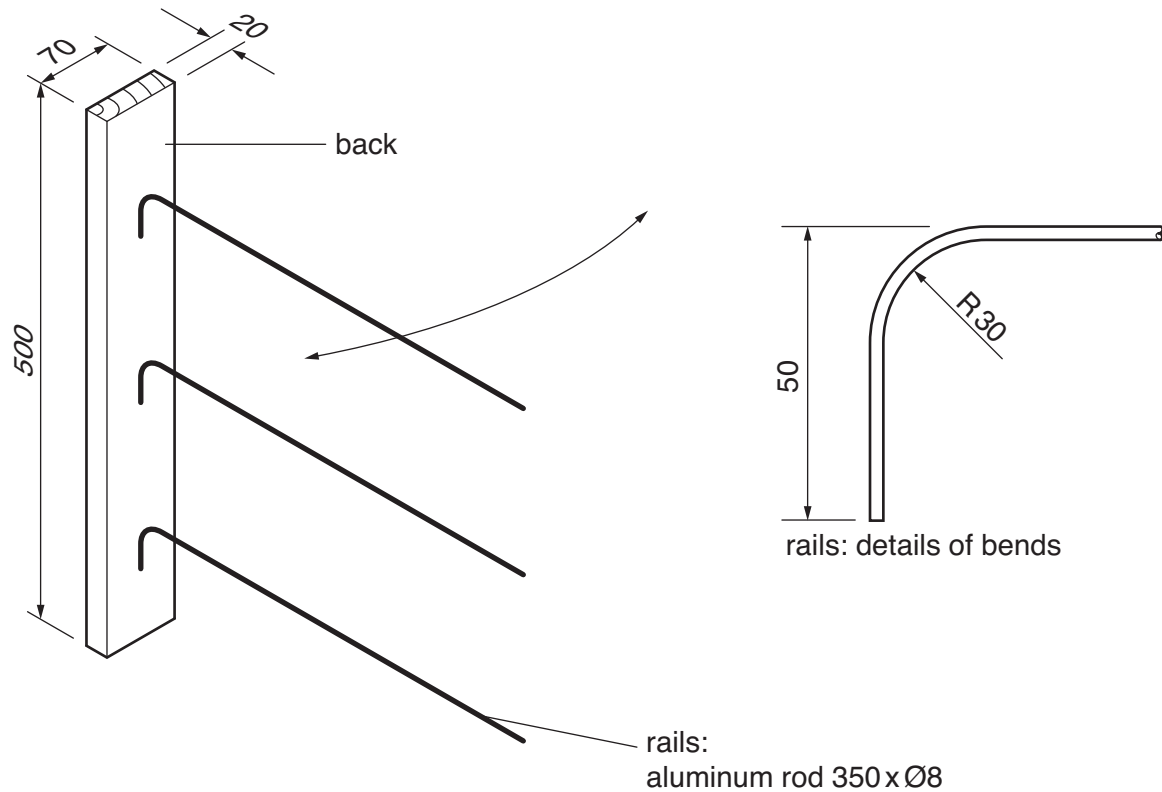

Fig. 6
- 4 Fig. 6 shows an incomplete design for a wall mounted tea towel holder. The tea towel holder has a beech back and aluminium rails.